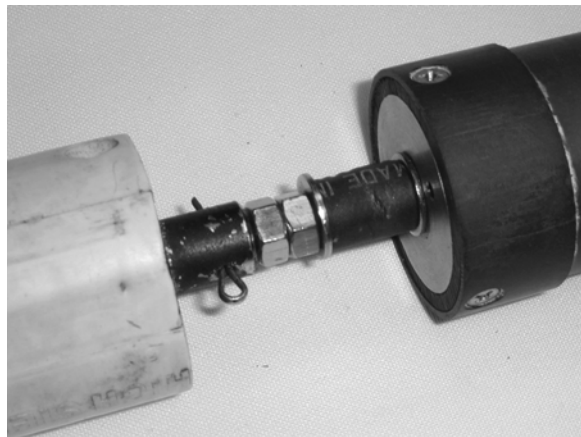
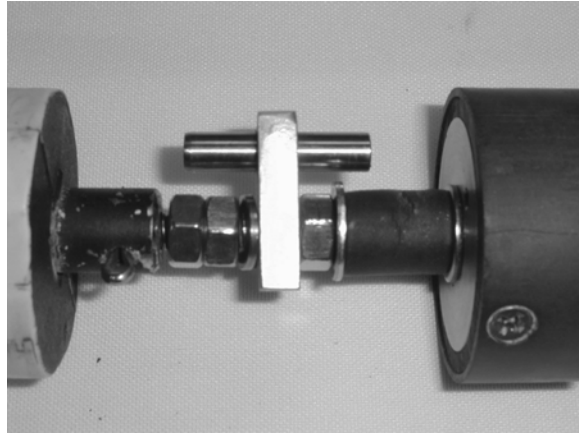
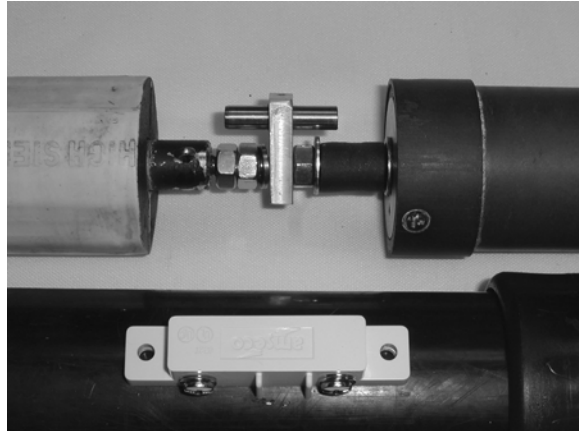

Figure 1: Before modification
Figure 2: After modification
Figure 3: Alignment
- (10) The threaded shaft is secured to the base of the coil form by a rubber bushing, flat washer, and two nuts. Remove only the outer nut. (Fig. 1)
- (11) Place the magnet bracket onto the threaded shaft against the existing nut.
- (12) Place a split washer on the threaded shaft.
- (13) Screw a nut on the shaft and tighten it very tight, until the split washer is compressed. Screw on the second supplied nut and tighten it very tight. (Fig 2). Install the first nut and tighten securely *before* installing the second nut.
- (14) Now is a good time to perform the antenna manufacturer's scheduled maintenance on your antenna, such as washing and periodic cleaning. See your High Sierra manual.
- (15) Temporarily screw the quick-disconnect (or other whip fixture) back into the top of the coil form.
- (16) Place the coil and motor assembly side-by-side with the motor's mounting holes aligned with the motor mounting holes in the main shaft. Observe how far the coil form and quick disconnect extend past the top end of the main shaft.
- (17) Note the position of the magnet relative to the main shaft and make a corresponding mark on the outside of the main shaft. Make a permanent mark for future reference. (Fig. 3)
- (18) Slide the motor/coil assembly into the bottom of the main shaft the appropriate distance. Use the temporarily-installed whip fixture to manually rotate the motor/coil assembly until the motor mounting holes line up. Or, you can grasp the whip fixture with pliers and rotate the main shaft to align the motor mounting holes. If you removed the plastic bumper and the lower weather shield cap for cleaning, reinstall them on the main shaft.
- (19) Install the 2 motor mounting screws.
- (20) Temporarily secure the switch (Fig.3) to the main shaft (the outer, black plastic tube) with a piece of tape; center the switch over the mark corresponding to the position of the magnet.
- (21) Connect the yellow wire from the Ameritron SRS-100 controller directly to the red wire from the antenna motor.
- (22) Connect the green wire from the Ameritron SRS-100 controller to the white wire from the motor, with the 5-ohm resistor *in series* with the wire. Wrap the connections with electrical tape or other suitable insulating material.